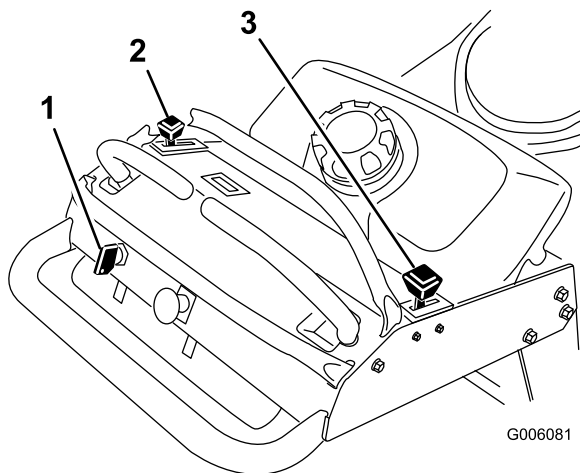

Figure 6
4. Move the throttle control to fast and move the choke lever to the on position before starting a cold engine (Figure 6).
2. Move the throttle lever to slow (Figure 6).